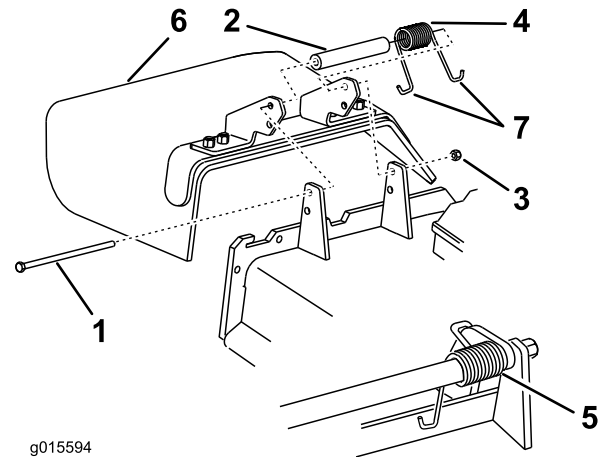

Figure 105
Note: Make sure one J-end of the spring is installed behind the deck edge before installing the bolt as shown in Figure 105.
3. Install the bolt and nut. Place one J-hook end of the spring around the grass deflector (Figure 105).
1. Remove the locknut, bolt, spring and spacer holding the deflector to the pivot brackets (Figure 105). Remove the damaged or worn grass deflector.